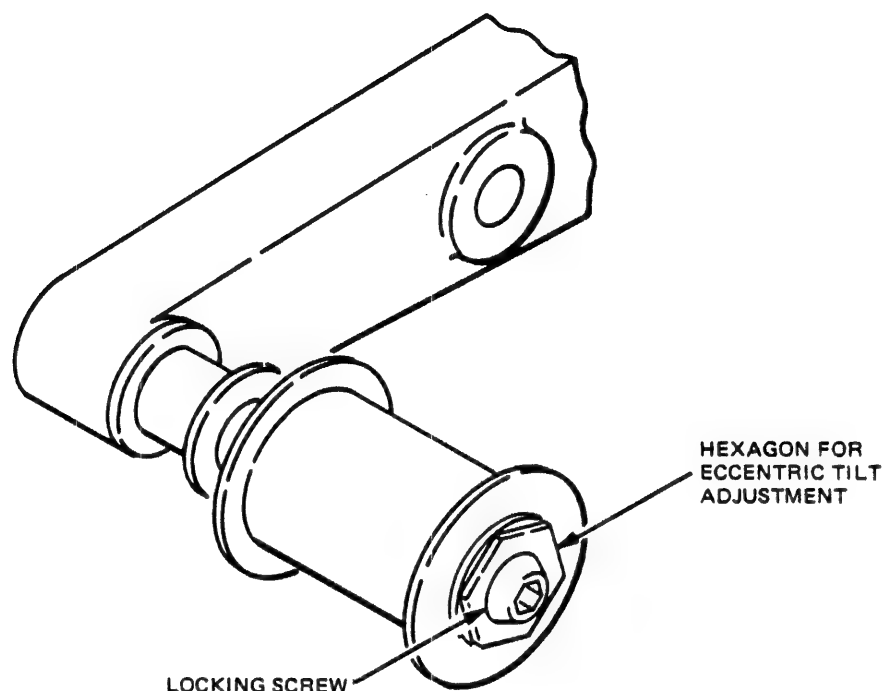

Figure 4-19. Tilt Adjustment for File Reel Arm Guide
- d. Adjust tilt of roller guide until width of drum is parallel to alignment tool. This adjustment is accomplished by slackening roller-guide locking screw  $\frac{1}{2}$  turn and rotating eccentric guide by means of hexagon as shown in Figure 4-19. During this adjustment, drum should be presented to alignment tool by pressing against roller guide. This pressure simulates effect of tape tension on arm.